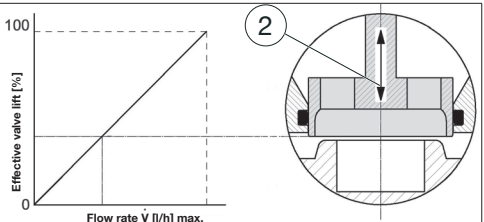

Fig. 5: Linear characteristic line of the regulating unit
The “Cocon QTZ” can be equipped with an actuator activating the regulating unit (2) which has an almost linear characteristic line (see Fig. 5). The room temperature can, for instance, be controlled with the help of actuators and room thermostats. The maximum flow rate (full demand) is selected with the help of the presetting at the handwheel. Operation during low demand periods is controlled via the piston stroke of the actuator. Even during low demand periods with steady control, for instance in conjunction with 0-10 V actuators, the valve authority of the “Cocon QTZ” within the effective valve lift amounts to 100 % (a = 1).